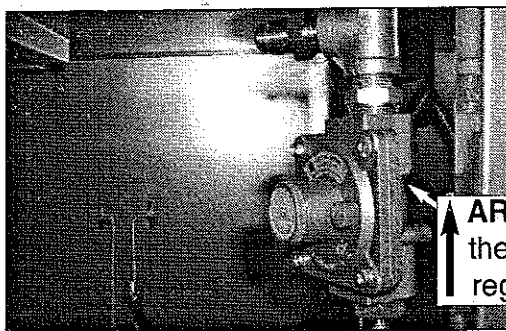

Fig 20
3. Attach the NG regulator to the tee fitting. (See Fig. 20)